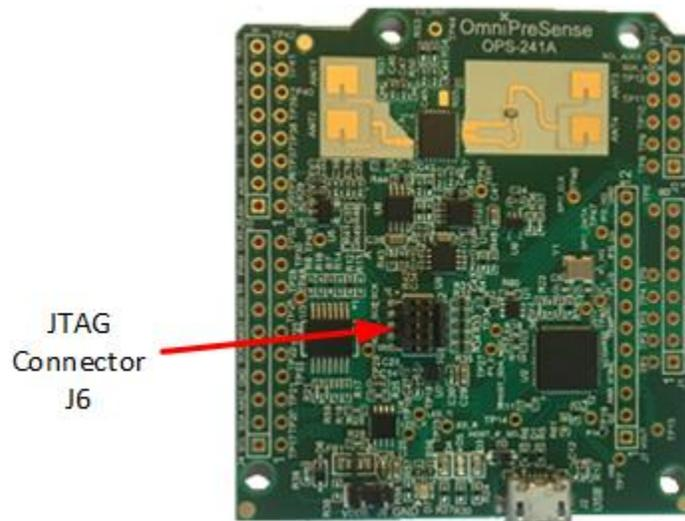

Figure 4. JTAG Connector (J6 on OPS241)
Step 2. Connect the JTAG programmer's connector to the JTAG connector on the OPS241/OPS242 (J6) located near the middle of the board (Figure 4). On the OPS243 the JTAG connector is J2 and located to the right side of the board with the antennas positioned at the top or lower left on the version D2 and later boards. The connector is keyed, so it can only connect in one direction.